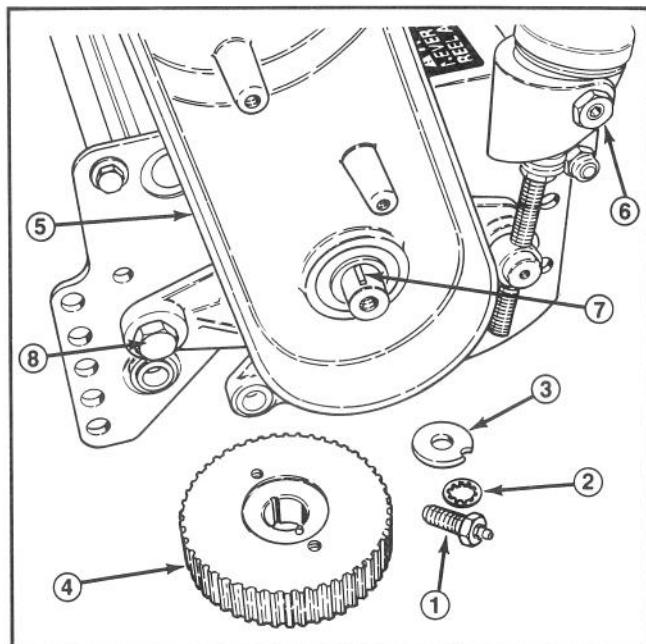

Figure 29
6. Remove the reel capscrew, toothed washer and pulley washer from the reel shaft (Fig. 29). (Note: Capscrew is assembled with a thread locking compound).
7. Using a puller, remove the driven pulley from the reel shaft (Fig. 29). Remove the woodruff key from the reel shaft.
8. Remove the adjustment handle assembly and cone nut, belleville washer and shoulder bolt securing the housing to the sideplate (Fig. 29). Remove the housing.